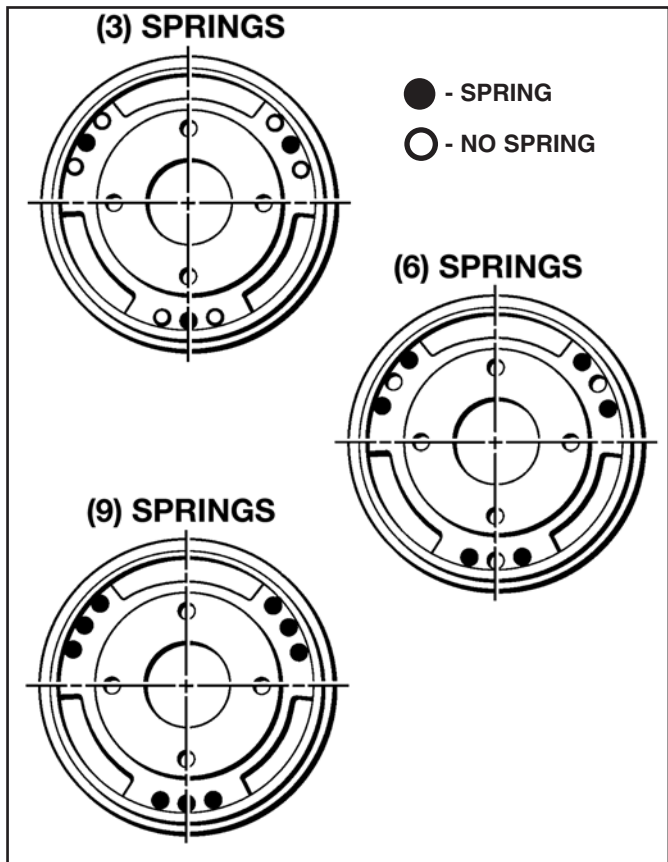

Figure 9.7 - Brake Spring Placement
3. Place the correct number of Springs (#36) into the spring pockets of the Piston (#3). (See Figure 9.7)